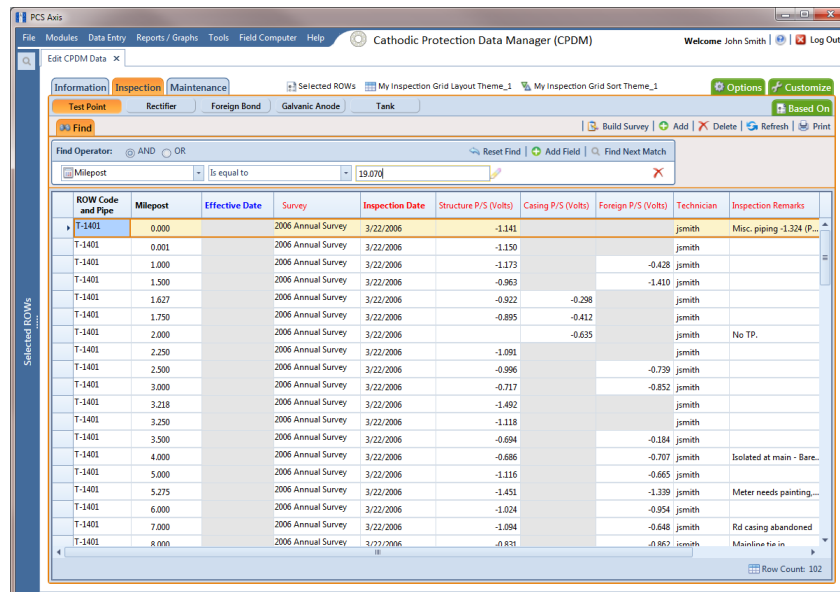

Figure 7-59. Find
- 5 Click the **Find** tab **Find** to open the search properties panel (Figure 7-59).